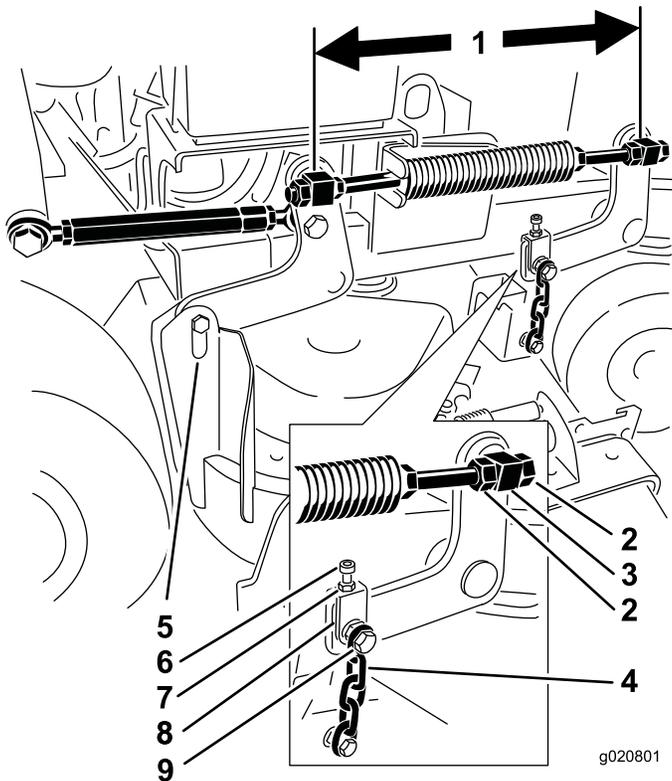

Figure 82
6. Check the distance between the swivels, measure at the center of the swivels (center-to-center length) on each threaded rod. Ensure the length is 49.5 cm (19-1/2 inches) for 36 inch mower decks and 43.7 cm (17-3/16 inches) for 40 inch mower decks (Figure 82).
11. If adjustment is needed, loosen the upper chain bolt (Figure 82).
7. Loosen the upper chain bolts (Figure 82).